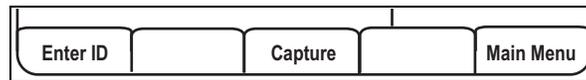

Figure 2-3. Operation Softkeys
- Press the corresponding scale's softkey. This scale remains active until the **Main Menu** softkey is pressed. Figure 2-3 displays.